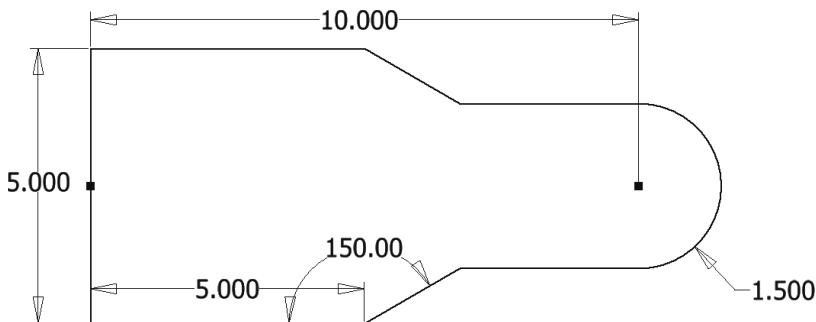

Figure 2.71
- 11 Add a horizontal dimension by selecting the left vertical line and the center point of the arc (or on top of the arc). Locate the dimension above the sketch. Enter **10** for the value as shown in Figure 2.71.
- 16** Use Undo from the Quick Access toolbar to return the sketch to the values shown in Figure 2.71.